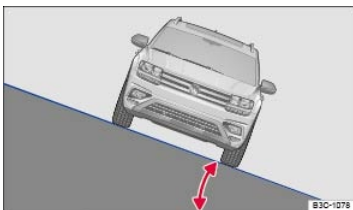

Fig. 132 Lateral angle.
- **Lateral angle (vehicle slope):** The maximum angle the vehicle may be driven across terrain without the vehicle rolling over (depends on height of center of gravity) ⇒ Fig. 132.